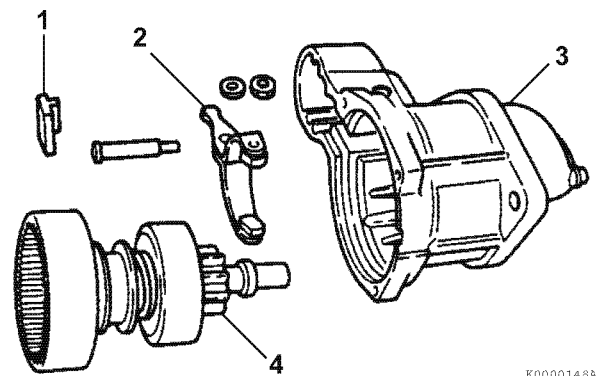

Figure 10-30
4. Apply a small amount of high temperature lithium grease (obtain locally) to the contact surfaces of the shift lever. Reassemble the shift lever (Figure 10-30, (2)), spacer (if equipped) (Figure 10-30, (1)), and pin.
5. Reinstall the pinion shaft assembly (Figure 10-30, (4)) in the pinion housing (Figure 10-30, (3)). Be sure the shift lever properly engages the pinion.